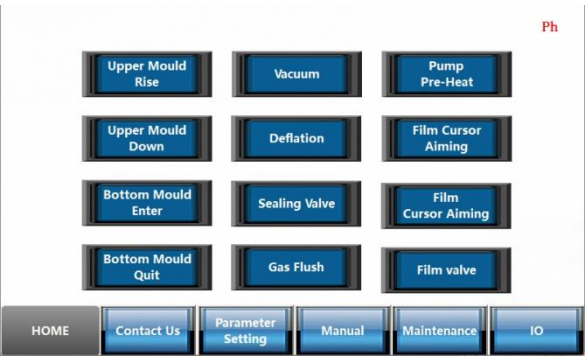

Figure 9
6.9 Manual operation (Figure 9)